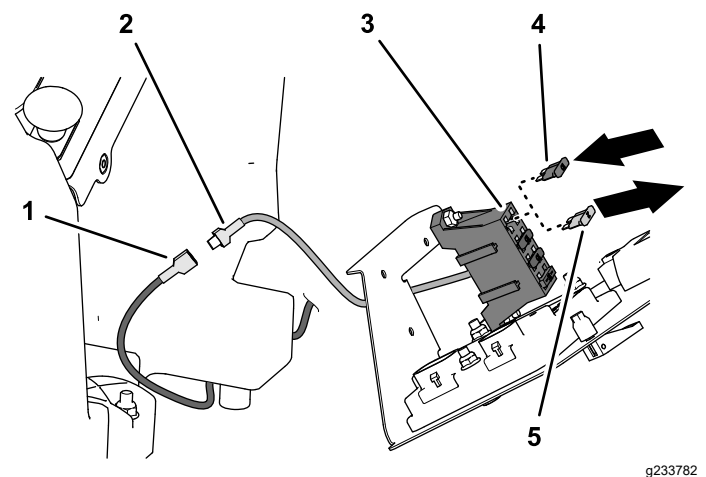

Figure 41
2. Route the auxiliary-power wire (green color insulation) of the wire harness (kit) into the operator-controls compartment (Figure 41).
- At the fuse block (Figure 41), connect the following wire pairs:
- Install the fuse (10 A) into the fuse-block slot (Figure 41).